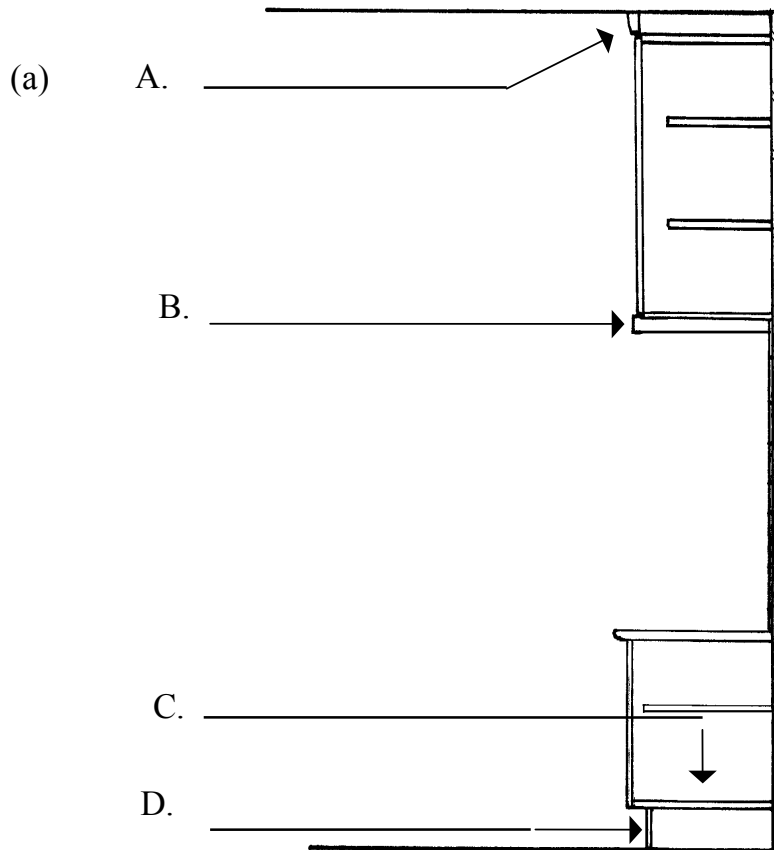

Fig. 4
20. Fig. 4 shows details of kitchen fitments.